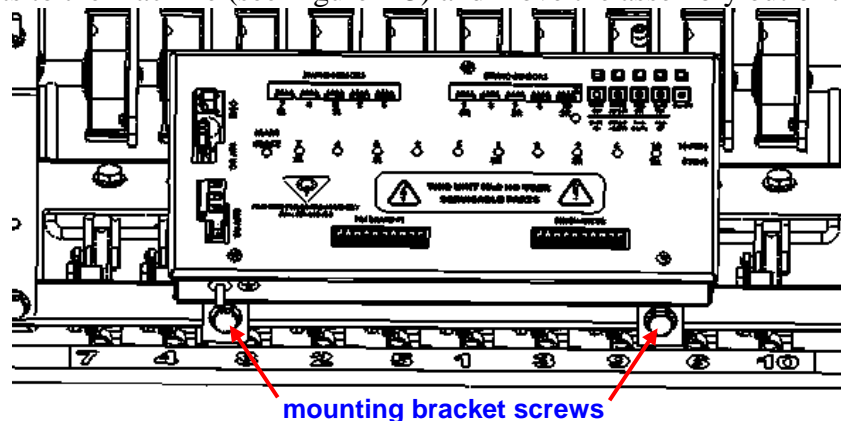

Figure 2-3, Pin Detector Circuit Board Assembly
4. Remove the two screws that secure the pin detector circuit board assembly mounting brackets to the machine (see Figure 2-3) and move the assembly out of the way.